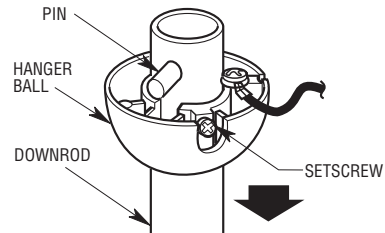

Figure 8
- 9. Remove the hanger ball by loosening the setscrew in the hanger ball until the ball falls freely down the downrod (Figure 8). Remove the pin from the downrod, then remove the hanger ball. Retain the pin and hanger ball for reinstallation in Step 14.